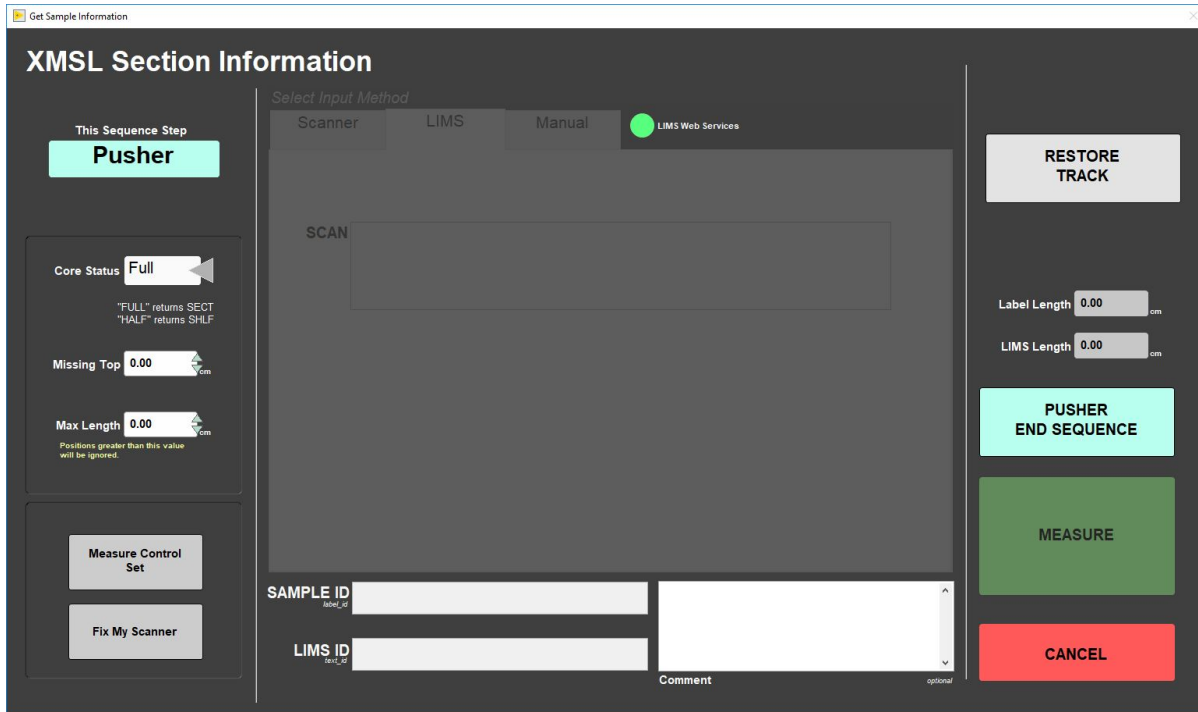

Figure 7- Sample Information Window- Pusher End Sequence View
6. The Sample ID information window will reappear on the screen (**Figure 7**).